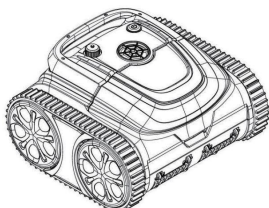
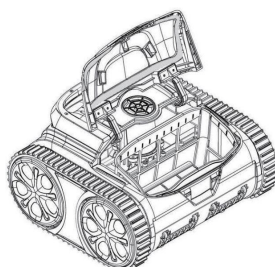

Figure 4-1
Figure 4-2
4.3.1 Take out the filter basket: Place the cleaner on the shore, open the cover plate by hand according to the position indicated in the figure (Figure 4-1), and the filter basket is shown in the figure (Figure 4-2).